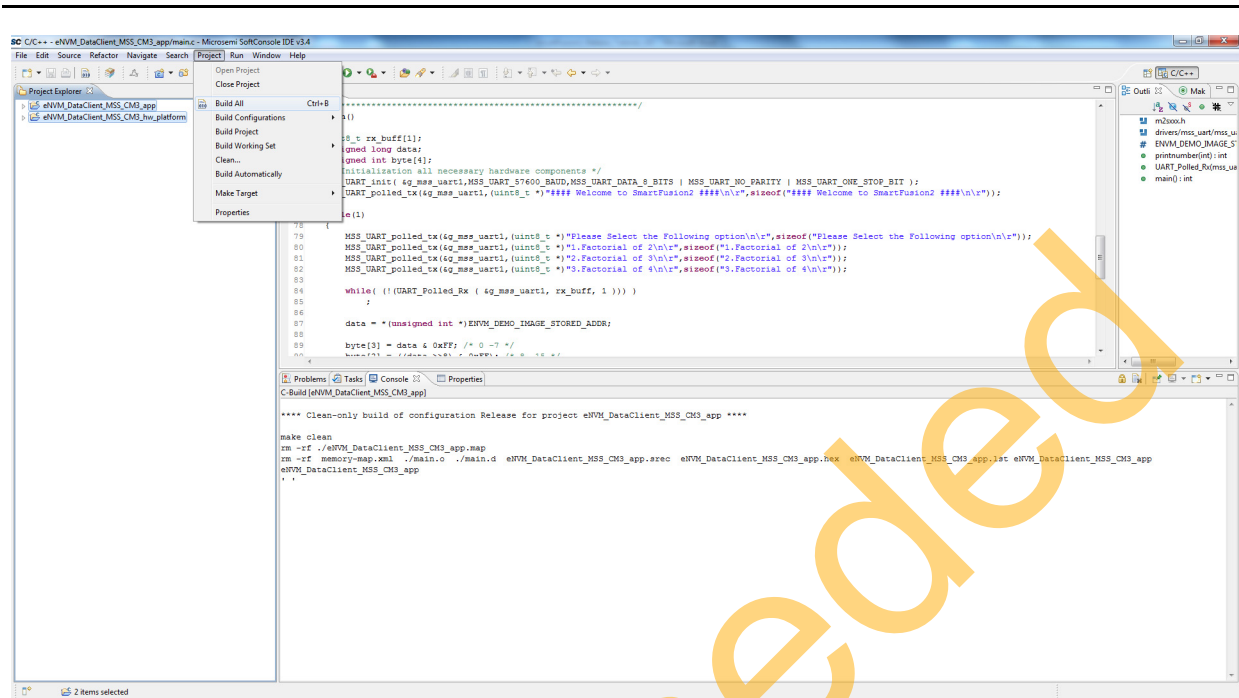
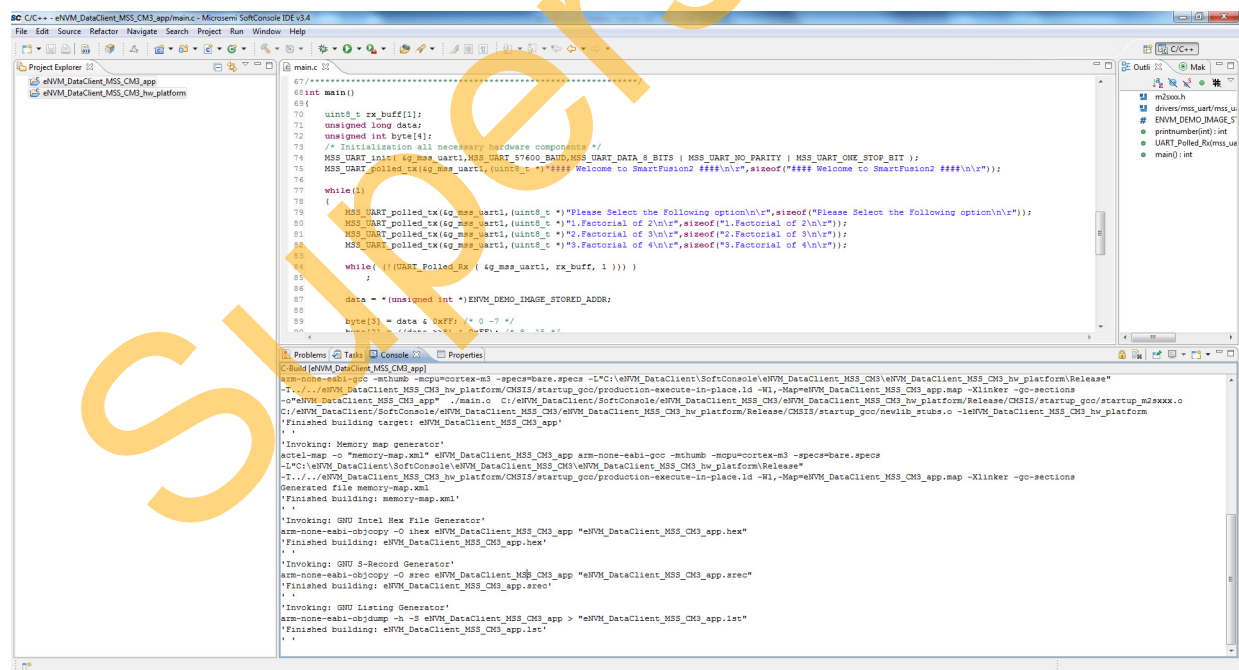
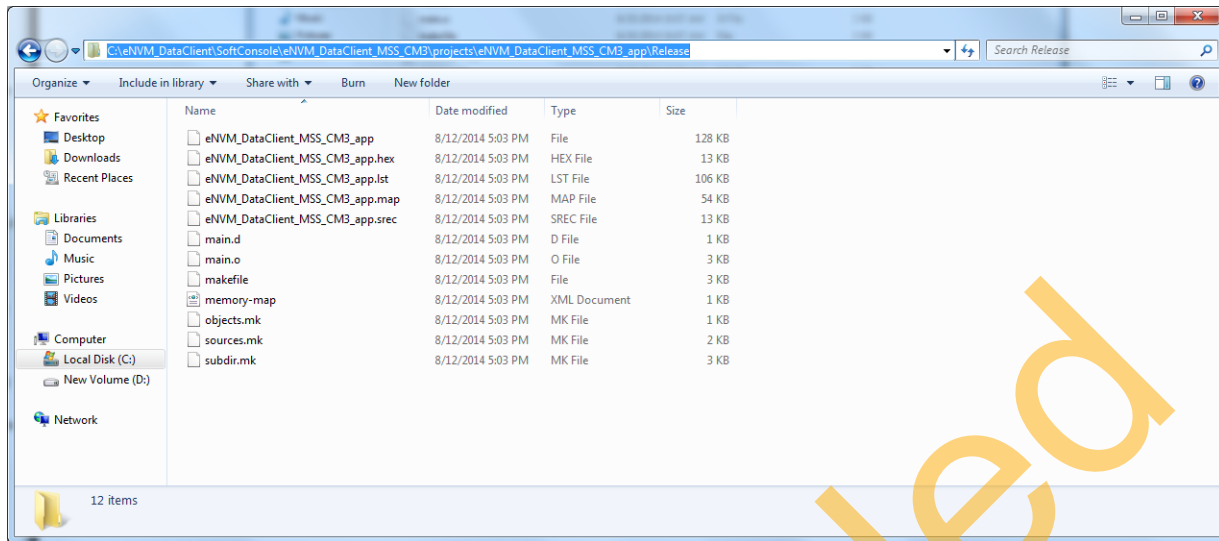

Figure 9 • Build All
Figure 10 • Generating Hex File
Figure 11 • Hex File in Release Folder
- Go to **Project > Build All** and Build the project as shown in Figure 9. .hex file is generated in the **Release** folder (see Figure 10 and Figure 11 on page 12).